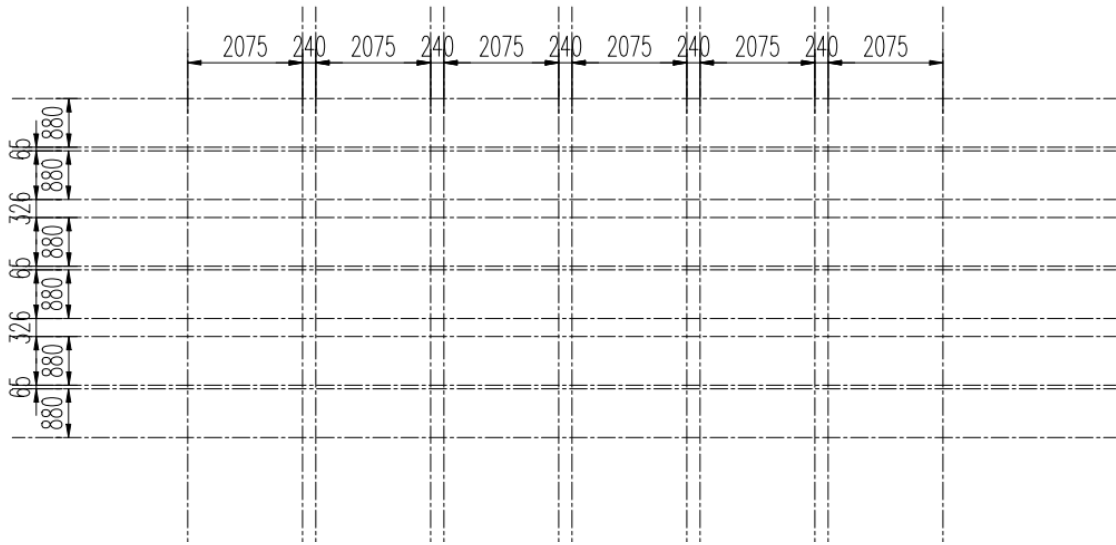
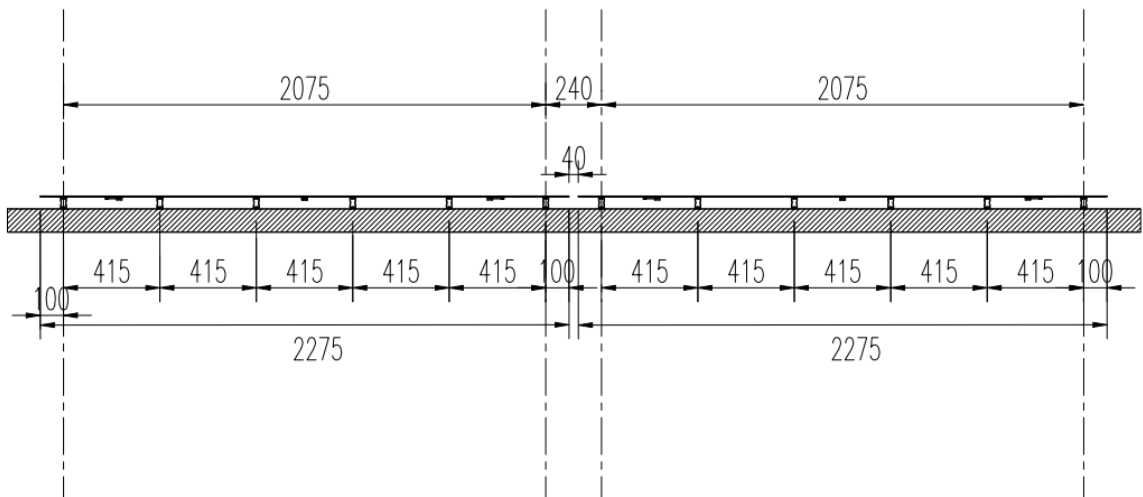

Figure 3
Figure 4
② After snapping the horizontal chalk line, proceed to snap the vertical chalk lines (see Figure 3). The spacing of the vertical chalk lines should be based on the center-to-center distance of the outermost elevating tubes on the product (see Figure 4).